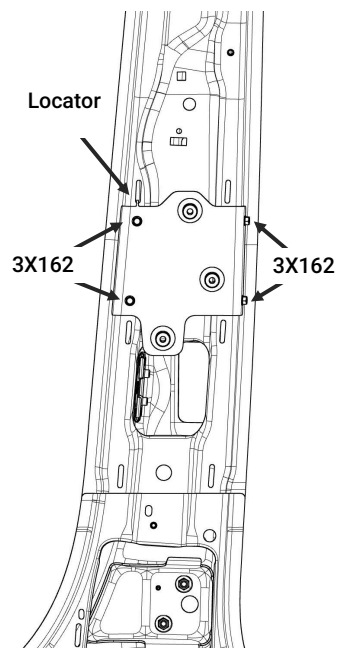

Figure 8
2. Place the Passenger B-pillar Bracket [3PAK572110] against the vehicle B-pillar with the locator tab in the bottom of the slot indicated in Figure 8. Ensure that the seatbelt is underneath the bracket.
3. Secure the B-pillar Bracket in place with a 3/8" socket and (4) self drilling screws [3X162]. The holes can be pre-drilled with a 3/16" drill bit if necessary.